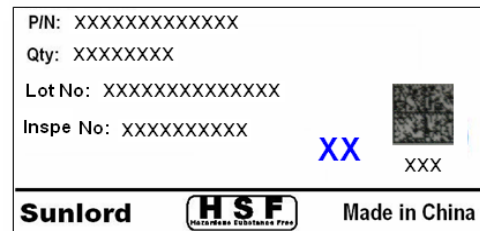

Fig.9.2.3-2B
2) Marking on outer case (refer to Fig.9.2.3-3~5):